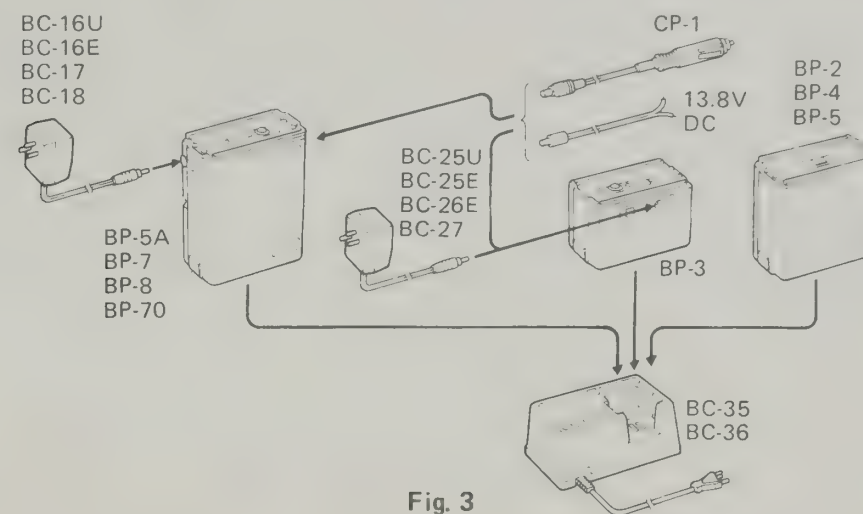

Fig. 3
- Connect the appropriate charger to the battery pack, or insert the battery pack in a drop-in type charger as shown in Fig. 3.